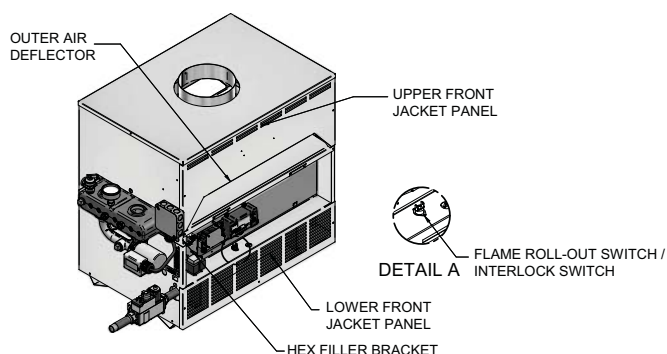

Figure 7-2 Outer Air Deflector and HEX Filler Bracket
- d. Remove the outer air deflector (FIG. 7-2)
- q. Remove the heat exchanger (HEX) filler bracket (FIG. 7-2).